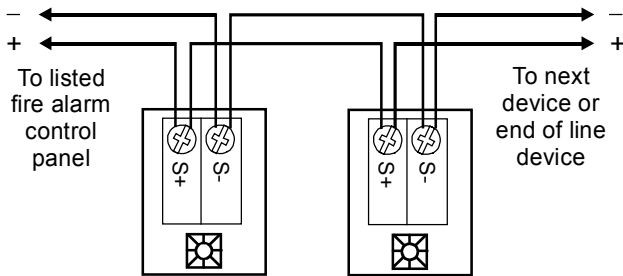

Figure 2: Wiring diagram
2. Connect the strobe terminals to the signal circuit field wiring. You must observe polarity for the unit to function properly. See Figure 2.